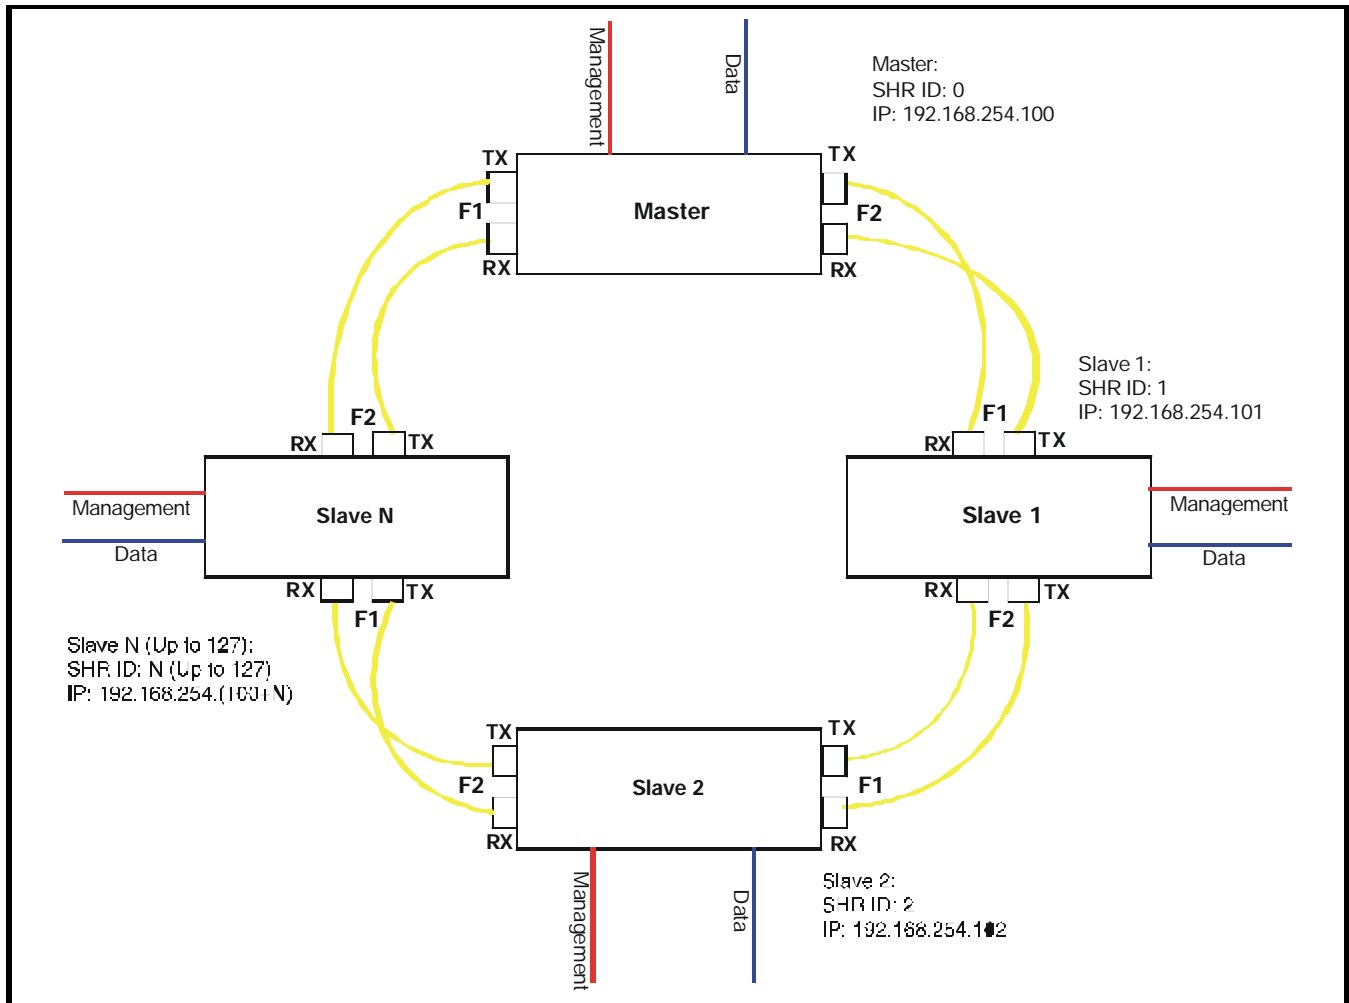

Figure 4. Self-Healing Ring Connection Diagram
The TC3820 units are configured as a ring as shown in the example in Figure 4 with a maximum of 128 units. Before installation, each unit in the ring must be configured with a unique identifying number (SHR ID) and IP address. Either hardware or software configuration can be used to configure the TC3820.
Figure 4, depicts the connections and settings for the SHR setup of one Master and three Slave units for bench testing using the hardware configuration. Follow the instructions below to configure the Master and Slave units.
1. Interconnect the switches in a ring setup using the fiber ports as shown in Figure 4. The SHR must be configured as a ring.
2. Connect the Fiber Ports F1 to F2 of adjacent unit (Rx to Tx and Tx to Rx) as shown in Figure 4.
The following LEDs status should be observed to verify the integrity of the units and all connections after power up and all connections have been made as in Figure 4: